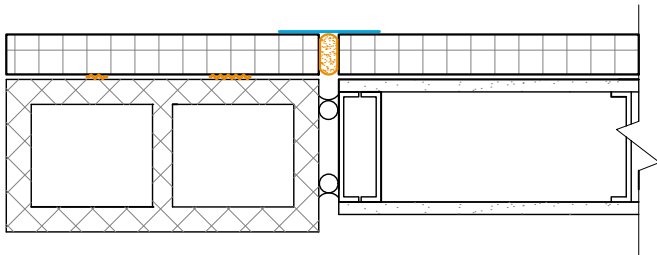

FIG 1: TRANSITION FROM CMU TO STUD | PLAN
4. FIG.1, GREAT STUFF PRO™ GAPS & CRACKS OR WINDOW & DOOR TO FILL JOINTS  $\geq 1/4"$  PRIOR TO FLASHING WITH MIN. OVERLAP TO FACE OF REQUIREMENTS ON DETAIL UWS-CM02 TO EACH FACE OF BOARD.